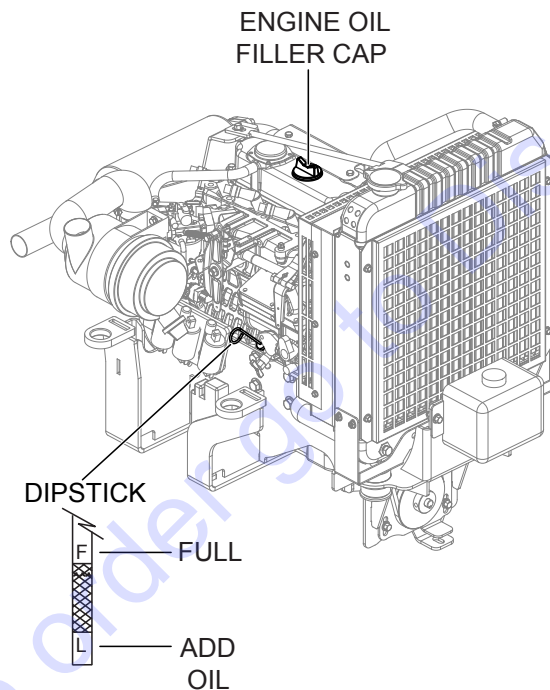

Figure 10. Engine Oil Check and Fill
2. Pull the engine oil dipstick from its holder (Figure 10).